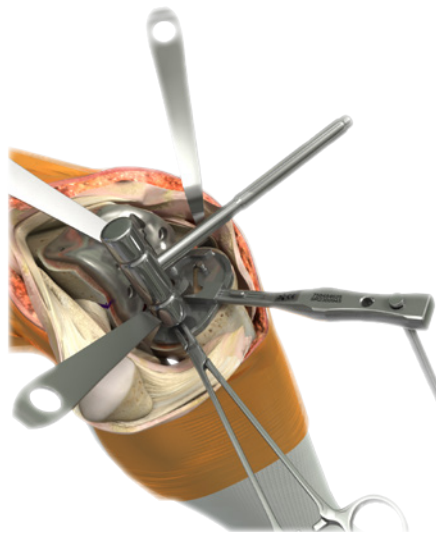

Figure 24
2. Re-assess the tibial coverage, size and rotation required and pin the tibial trial baseplate in place using two short headed pins (Figure 24).